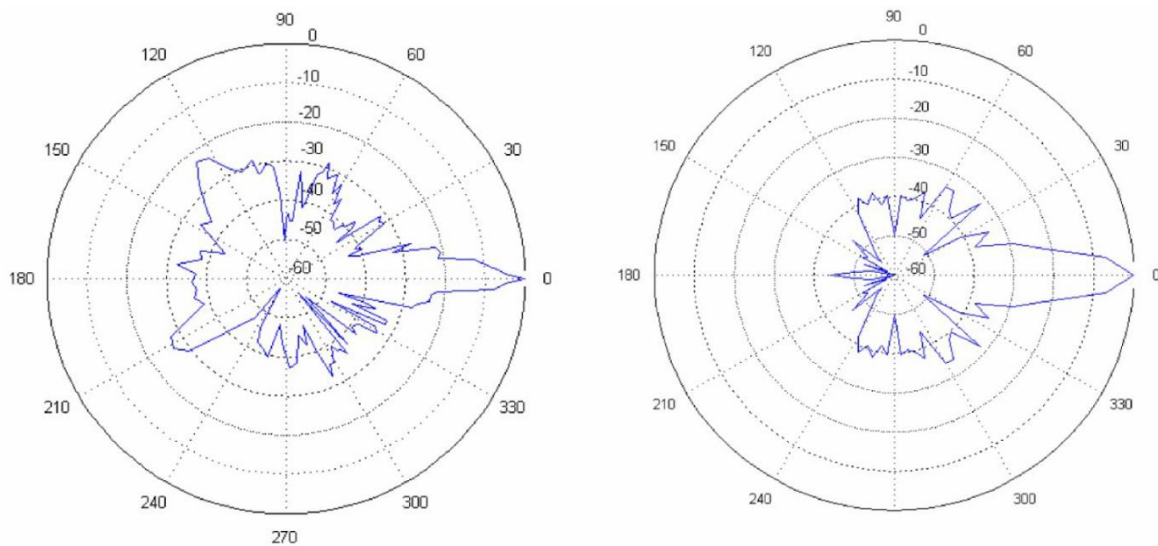

Fig. 1: Example of horizontal and vertical RF antenna radiation pattern for ground station
- Antennas on the rover and ground station - models, radiation patterns (see Fig. 1 for an example), pictures